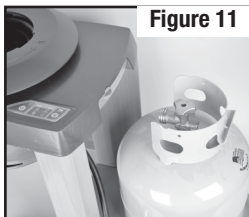

Figure 11
8. Place Propane Tank on Base. Place a full 20 lb tank of propane on the base. The threaded connection should be facing the handle area on the trap (**Figure 11**).